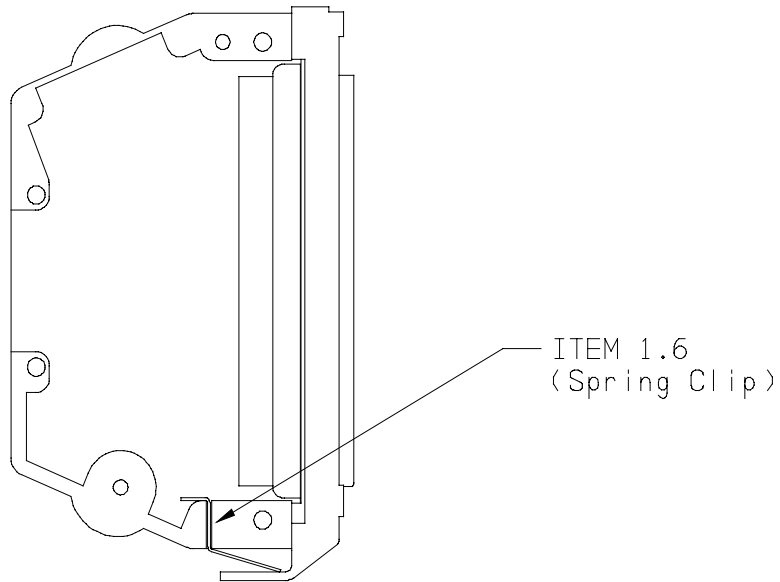

FIGURE 2-1.5 MK XXII EGPWS CONFIGURATION MODULE
STEP 5 Install item 1.6 (Spring Clip) as shown figure 2-1.5 below: